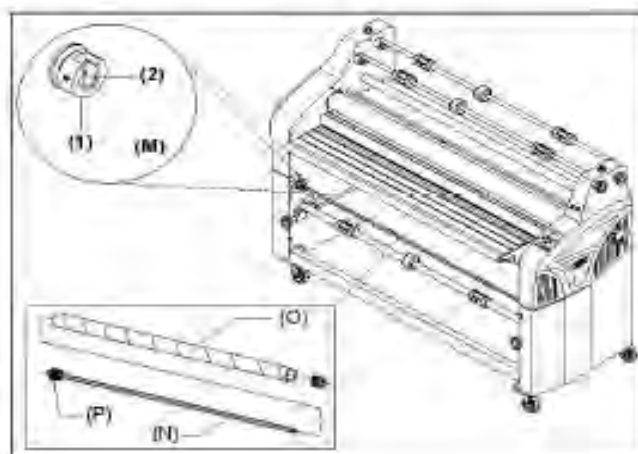

Fig. 18
(Figure 18) Secures the left side of the lower rewind shaft. To remove a shaft, turn the outer dial (1) opening so it aligns with the inner u-channel (2) opening and lift up and out and pulling the hex end out.
N. REWIND SHAFT: (Figure 18)
O. REWIND TUBE: (Figure 18)
P. REWIND ADAPTORS: (Figure 18)